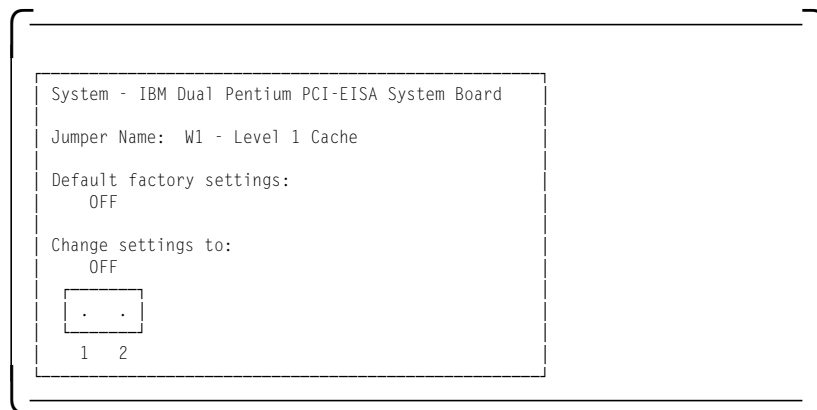

Figure 33. EISA Configuration Utility - Step 4
- c. The necessary switch/jumpers settings are displayed in a screen similar to the one shown in Figure 33 on page 77.